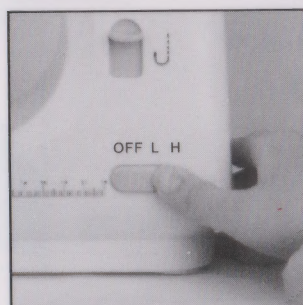

Fig.9
6. Slide the power switch to the Low or High speed position and the machine will automatically start sewing. We recommend the low speed for beginners (Fig. 9 ).